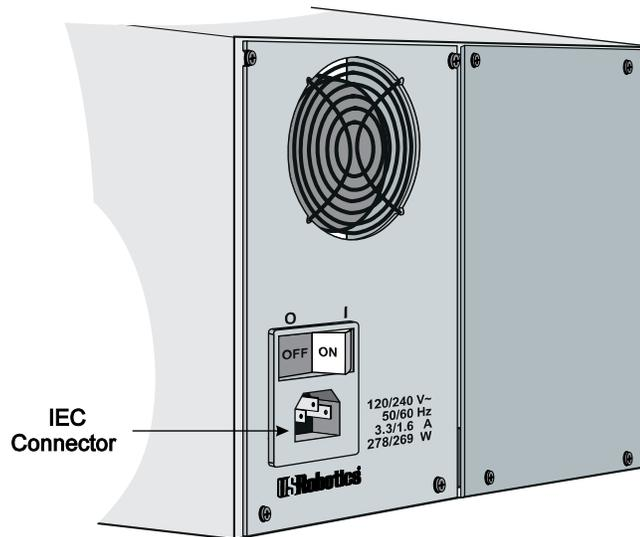

Figure 30. AC Chassis Rear Panel
- 1 For the AC chassis, plug the AC cord into the IEC connector on the chassis, and then into the AC power supply source. The connector and power switch are at the rear of the chassis, behind the power supplies. See Figure 30. For the DC chassis, make sure it has been wired properly as noted in the previous section.